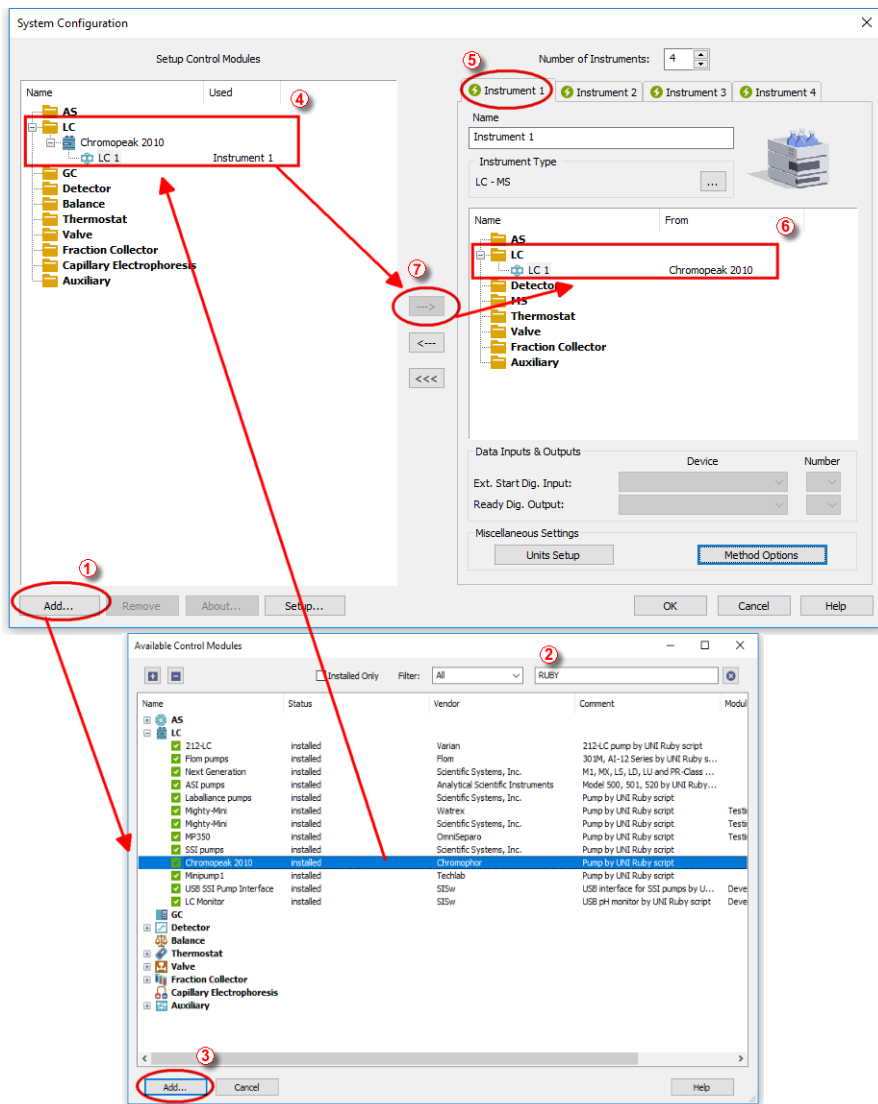

Fig 3: How to Add Chromopeak 2010 module
- Press the **Add** button (① on Fig 3 on pg 4.) to invoke the **Available Control Modules** dialog.
- You can specify the search filter (②) to simplify the finding of the driver.
- Select the correct item and press the **Add** (③ on 3.2 on pg 4.) button. Each device with already created UNI profile should have its own item named accordingly in the **Available Control Modules** dialog.